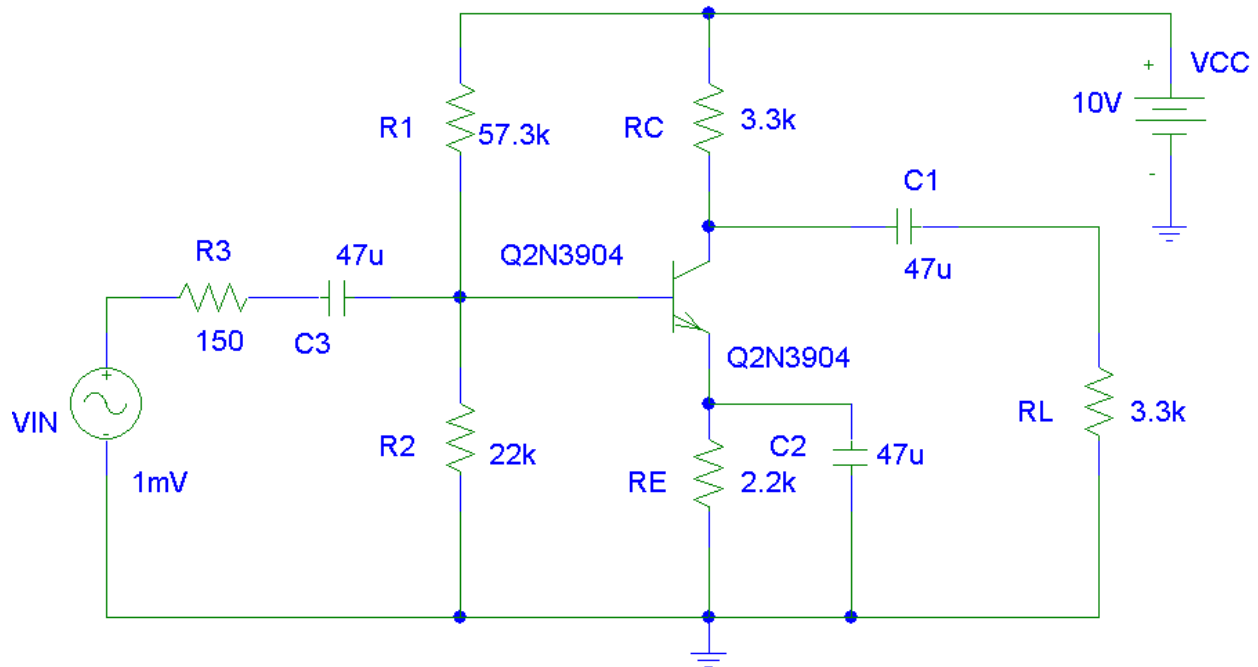

Fig.4. Circuit for Small signal analysis using BJT
- 3.1. Draw the circuit shown in Fig. 4 in PSpice schematics.